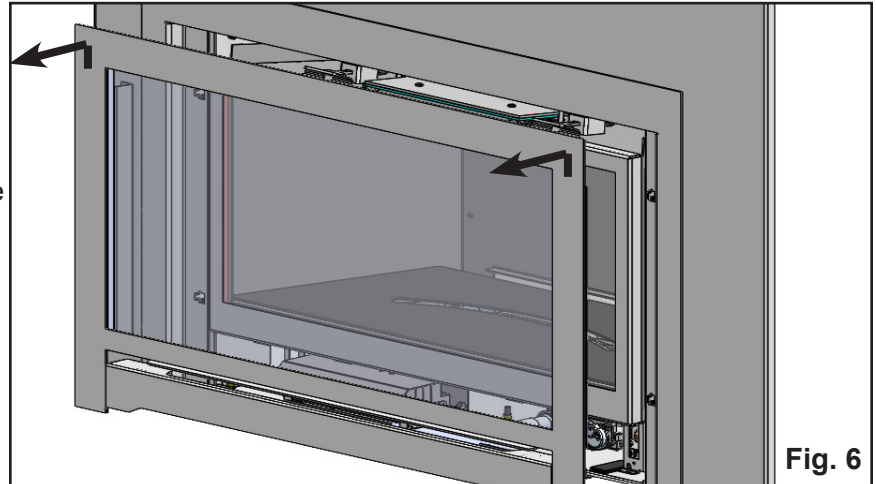

Fig. 6
2. Remove the Safety Screen Trim by lifting it up and out from the appliance. (**Fig. 6**)